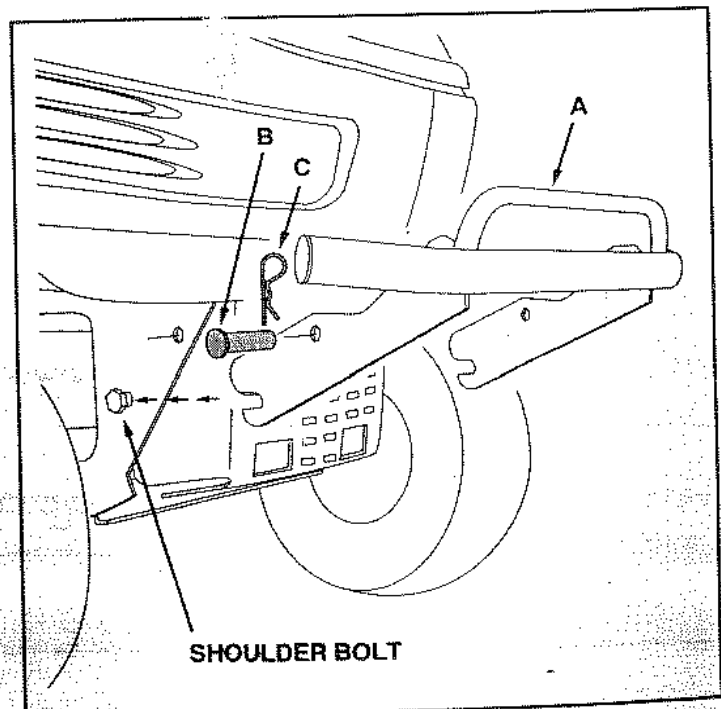

FIGURE 2
1. (A) Bumper Tube Assembly (Fig. 2)
2. To mount the bumper to the tractor, hook the notched ends of the bumper (A) onto the shoulder bolts on the sides of the tractor frame. Align the holes in the bumper with the holes in the tractor frame and insert the clevis pins (B) through the aligned holes. Secure the pins in place with the hair cotter pins (C). See figure 2.